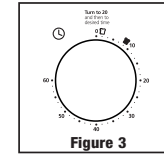

Figure 3
5. **Timer Control Knob with Bell Signal** – Set cooking time up to 60 minutes. Will automatically turn the oven OFF at the end of the cooking time. (See Figure 3)